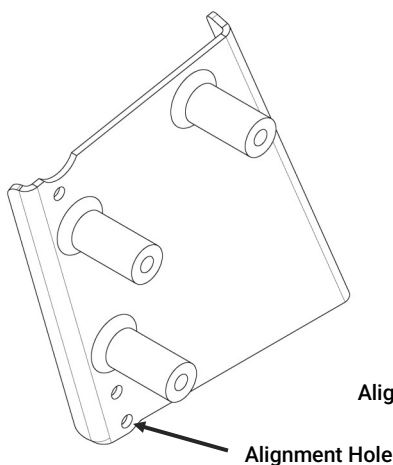
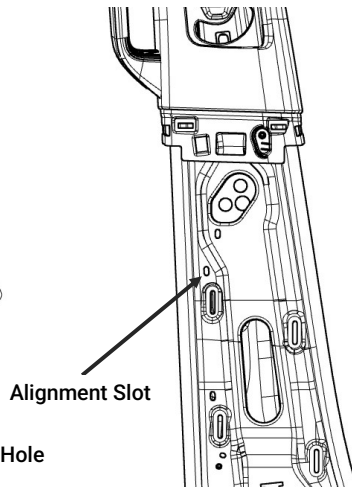

Figure 1a
Figure 1b
- C. Remove the passenger lower B-pillar trim. There is (1) vertical clip in each of the front and rear sill areas. The remaining clips are horizontal on the B-pillar.
- B. (1) of the [3X162] self drilling screws is used to set the height of the bracket. Insert a screw through the lowest hole on the bracket (Fig 1a) and into the slot that the wire clip was removed from in Section IV Step D (Fig 1b). The screw should be in the very bottom of the slot.